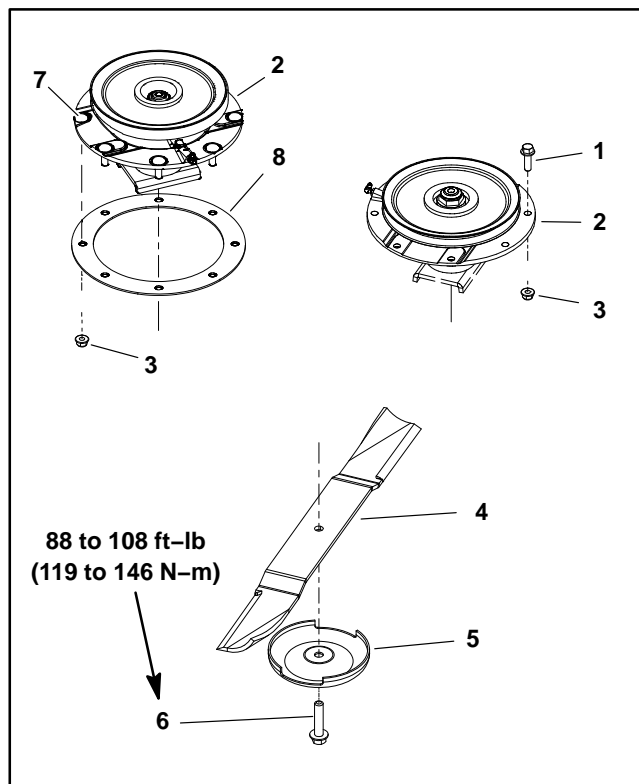

Figure 8
5. Remove cutting blade, anti-scalp cup and blade bolt from spindle to be serviced (Fig. 8).
6. Remove spindle assembly from deck (Fig. 8).
A. On decks before serial number 314000000, remove eight (8) flange head screws and flange nuts that secure spindle assembly to deck. Remove spindle assembly.
B. On decks after serial number 314000000, remove eight (8) flange nuts that secure spindle assembly to deck. Ribbed neck bolts are pressed into spindle housing. Remove spindle assembly and doubler ring.
2. Install cutting blade, anti-scalp cup and blade bolt (Fig. 8). Tighten blade bolt from **88 to 108 ft-lb (119 to 146 N-m)**.